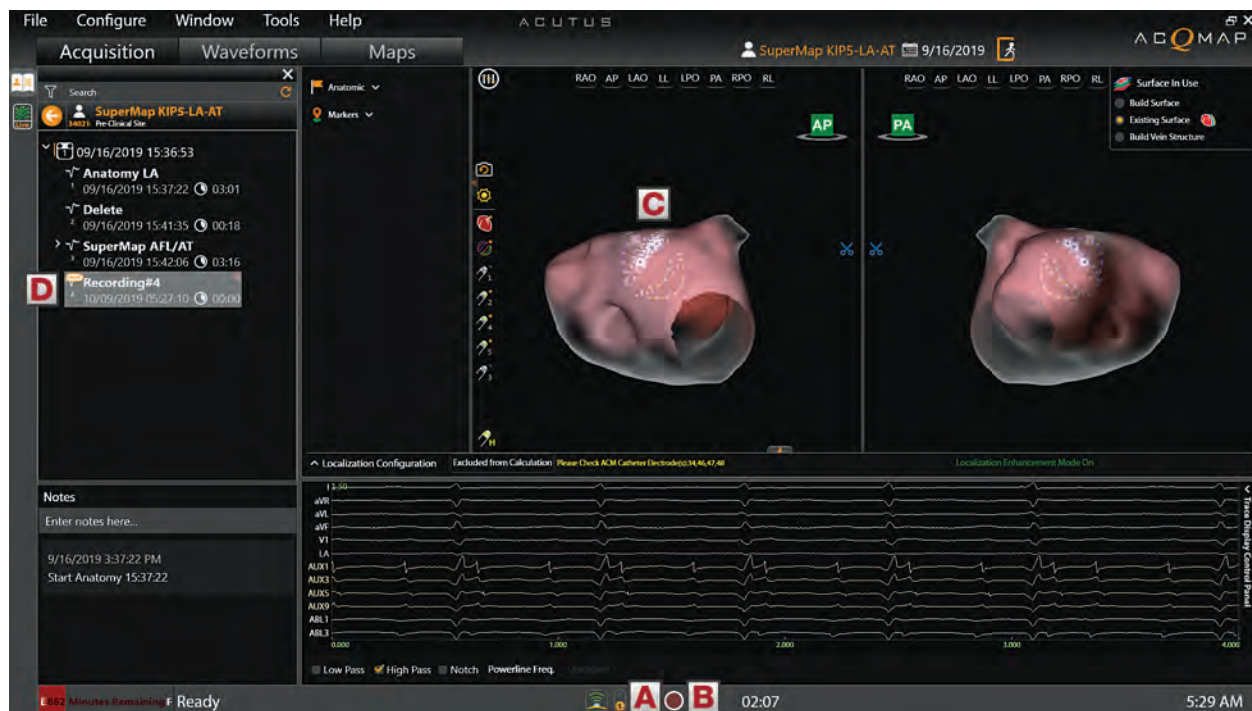

Figure 14-1. Data Acquisition. A. SuperMap Icon. B. Record Button. C. Surface Illumination. D. New Recording. E. Clear Surface & Progress Bar
1. Toggle the SuperMap icon at the bottom of the screen to enable SuperMap. The reconstructed surface anatomy will switch to a translucent surface. (*Figure 14-1, A*)
2. Click the **[Record]** button to start the SuperMap recording. (*Figure 14-1, B*)
3. Move the AcQMap Catheter throughout the chamber of interest. Contact with the chamber anatomy is not required. The reconstructed anatomic surface will change color as data is collected in different regions. (*Figure 14-1, C*) During acquisition, the electrodes on the AcQMap Catheter and the nearby surface mesh will illuminate when the catheter is near the displayed reconstructed surface. The mesh illumination will be white when the catheter is near the reconstructed anterior surface and gray when it is near the reconstructed posterior surface.
7. Locate the recording in the Navigation Window. Double click on the recording to open it in the Waveform window. (Figure 14-1, D)